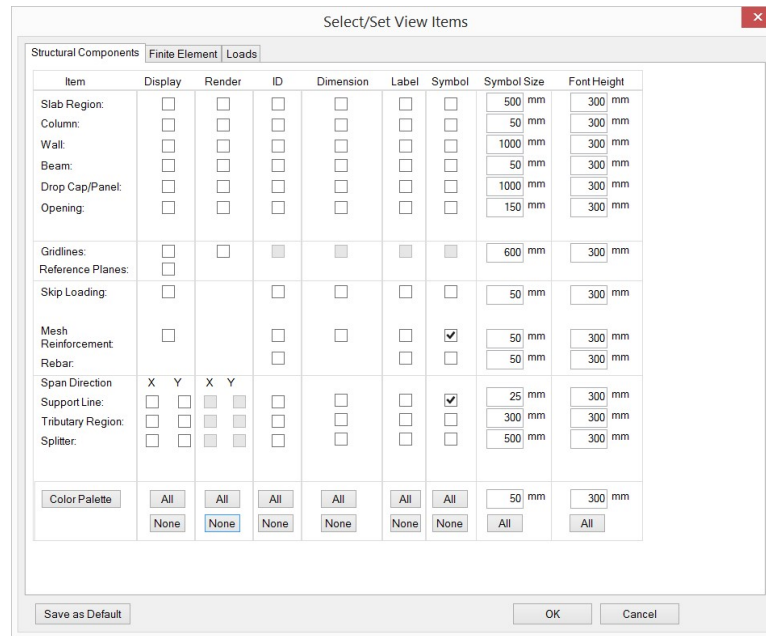

FIGURE 6.4-6 SELECT/ SET VIEW ITEMS DIALOG BOX
- This will open the **Select/Set View Items** dialog box. By default, the **Structural Components** tab will be open. Turn on the display of **Slab Region**, **Column** and **Wall** as shown in **Figure 6.4-6** and click on “**OK.**” This will display all structural objects in the screen.